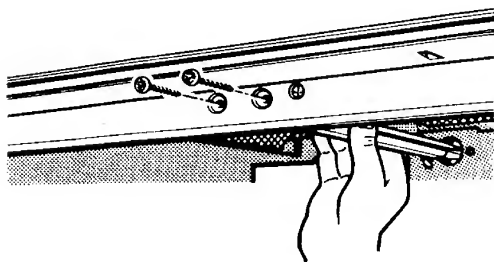

Fig. 8
3. Remove two screws from front of grill burner whilst supporting it as shown in Fig. 8. Lower front end of burner and withdraw.